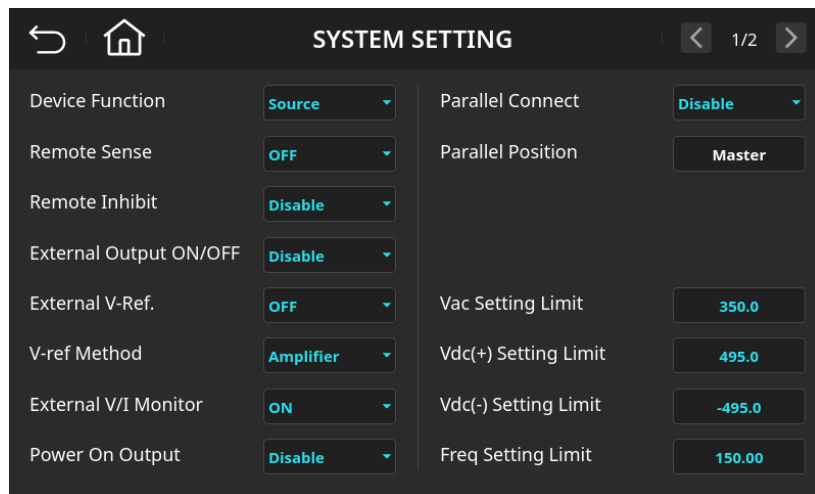

Figure 6-7 System Function Settings Page (External V/I Monitor = ON)
2. Select "ON", then, as shown in Figure 6-7, tap the Home icon  to return to the main screen.